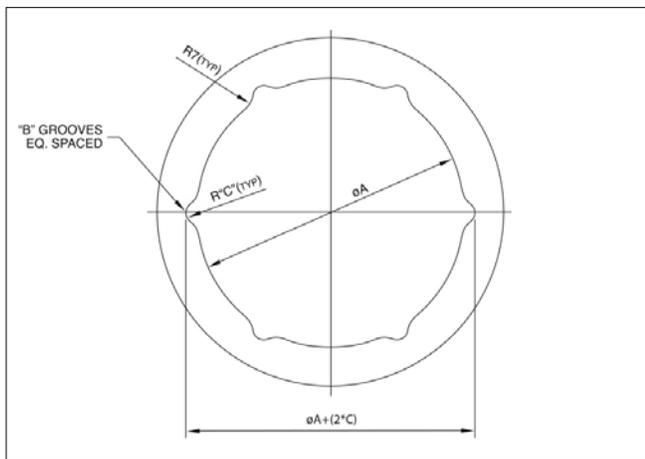

Figure 40: Typical Groove Configuration for ThorPlas-Blue Bearings
Water grooves, when required, are normally broached using a custom-made boring bar on the lathe. The boring bar and tools should be designed to produce the dimensions given in Figure 40 and 41. The following custom made tool bits can be ordered from Thordon Bearings or your Thordon distributor using the appropriate Part Numbers:
**A, B and C refer to dimensions in Figure 40.**